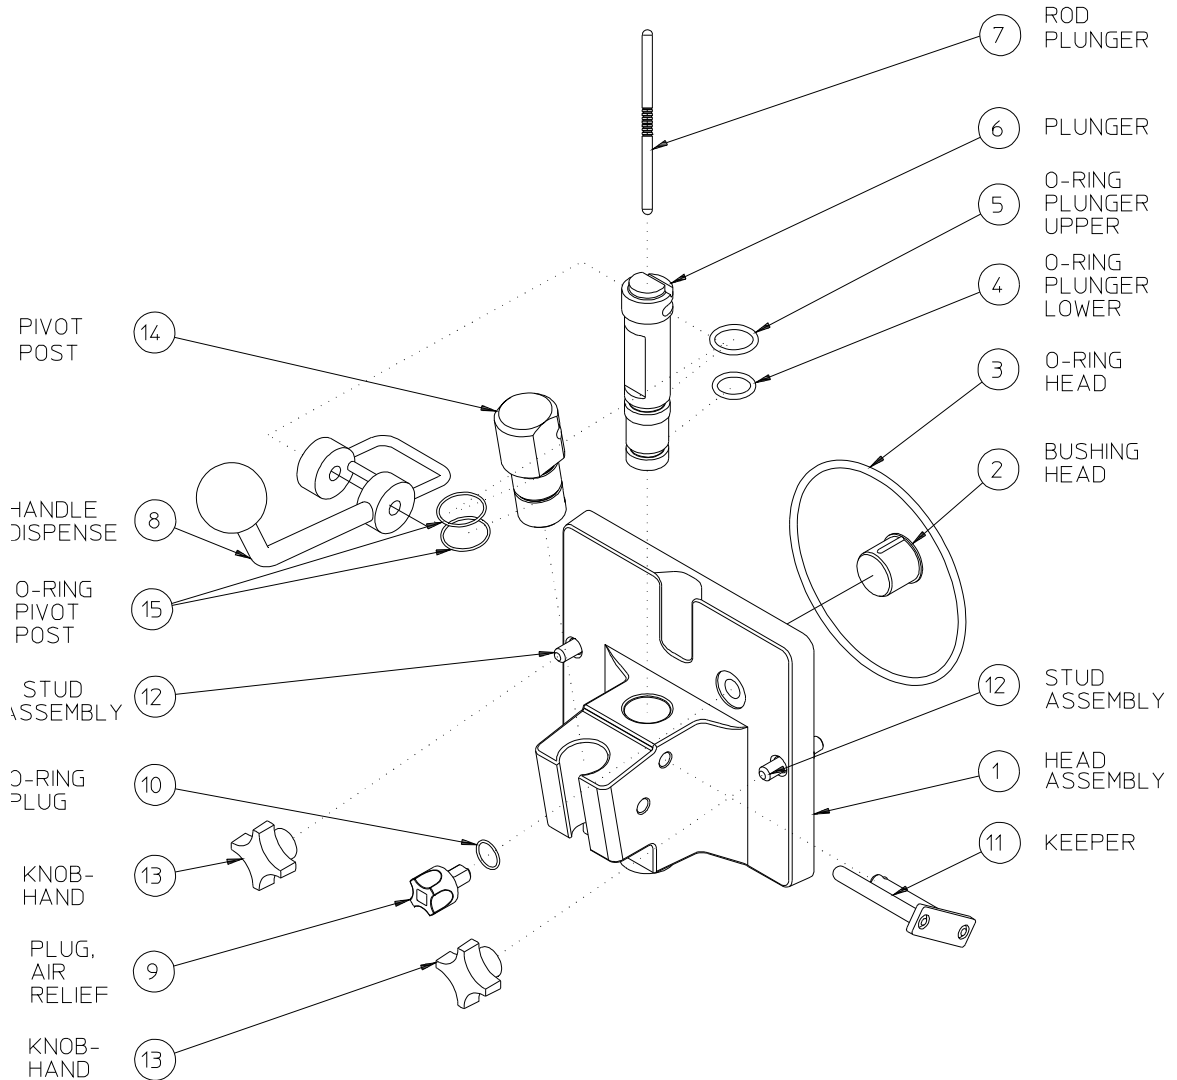
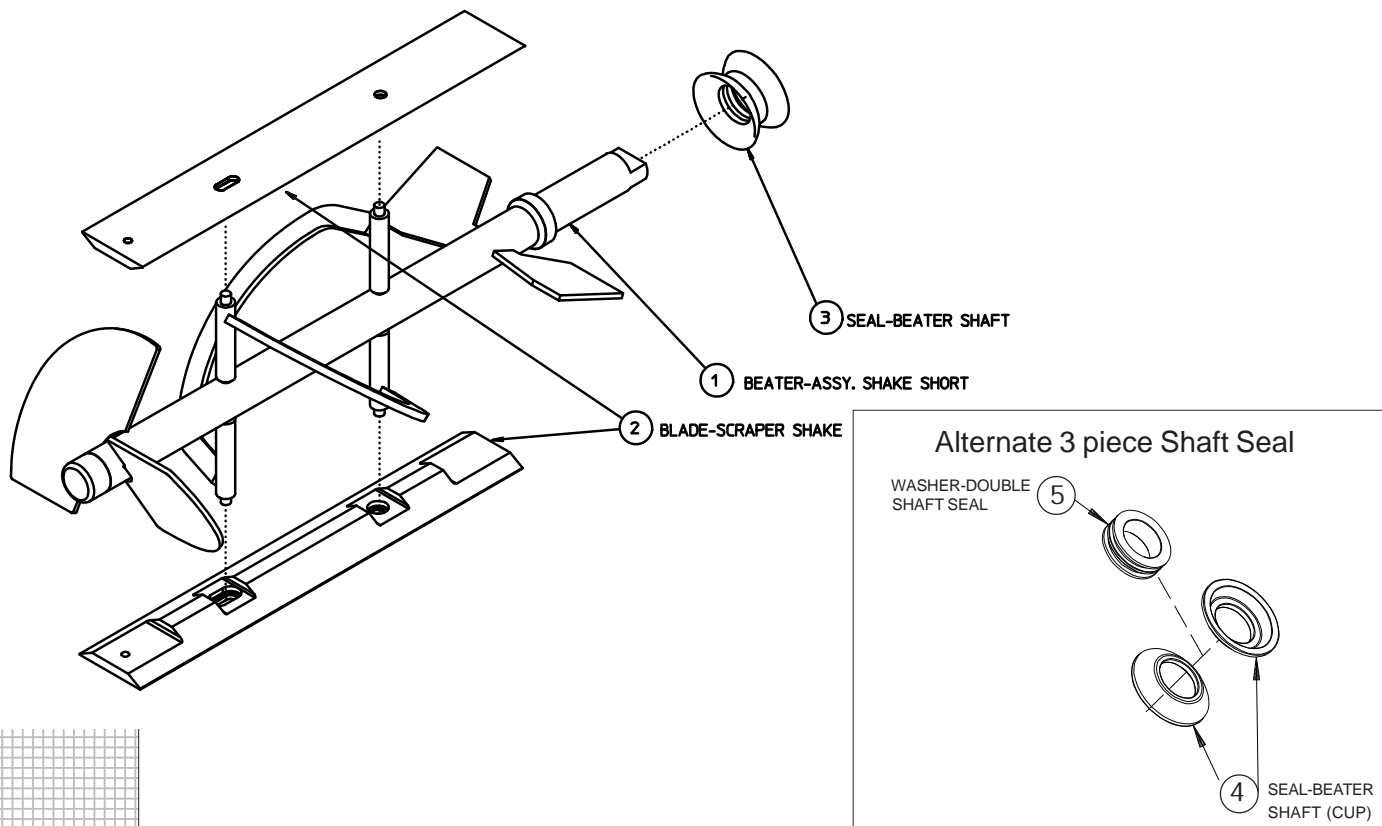

Figure 6-2 Dispense Head Assembly
Figure 6-3 Beater Shaft Assembly
2. (Refer to figure 6-2) Remove the actuator rod (7) by lifting up and swinging towards you.
3. Pull the keeper (11) out of the head.
4. Remove the handle (8), hand knobs (13) and then pull the head straight out.
5. Remove the plunger (6, figure 6-2) and the O-rings from the head and plunger (3,4,5).
6. Remove the air relief plug (9) from the head assembly. Remove the o-ring (10) from the air relief plug.
7. Remove the head bushing (2) and beater shaft (figure 6-3) from the cylinder. Then remove the scraper blades (2) and shaft seal (3) from the beater shaft (1). If using the 3 piece shaft seal remove the cup seals (4) from the washer (5) on the shaft seal assembly . Remove the drip tray.